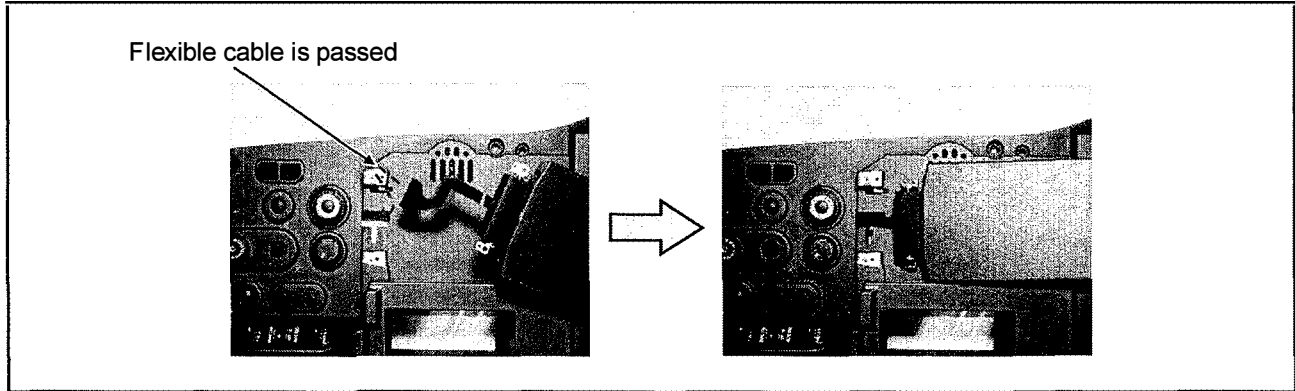

Figure 15-4
1. Pass flexible cable from the LCD Unit is passed through the hole as shown in figure 15-4.